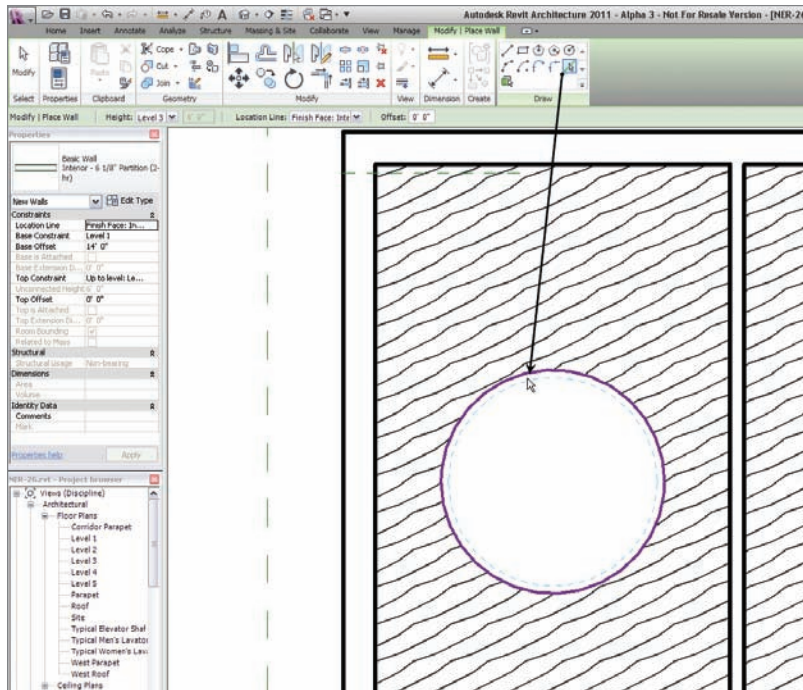

FIGURE 9.29 Creating one cool soffit!
3. Notice the entire circle is selected and the blue alignment line is facing the inside of the hole (see Figure 9.29). When you see this, pick a point to the inside of the hole.